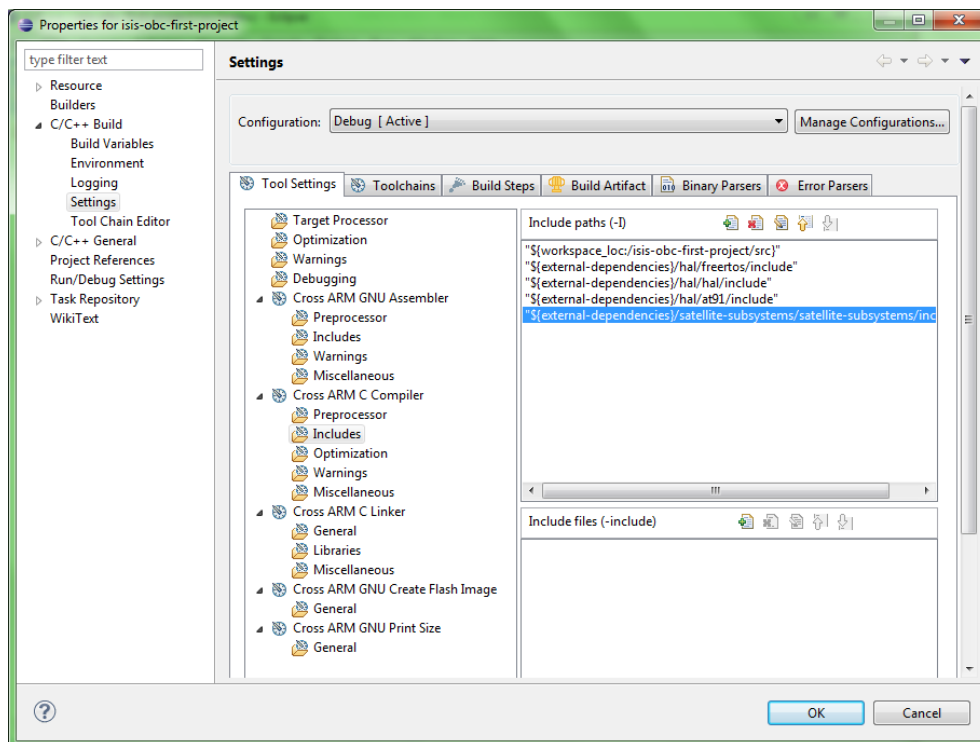

Figure 17 - Adding the library include path
2. Add the include path to the library: Open Eclipse, right click the first project and open project properties. Navigate to **C/C++ Build > Settings**. Under Tool Settings choose **Cross ARM C Compiler > Includes**. Add the path to the *include* folder of the library. For satellite subsystems this is "\${external-dependencies}/satellite-subsystems/satellite-subsystems/include". See Figure 17.